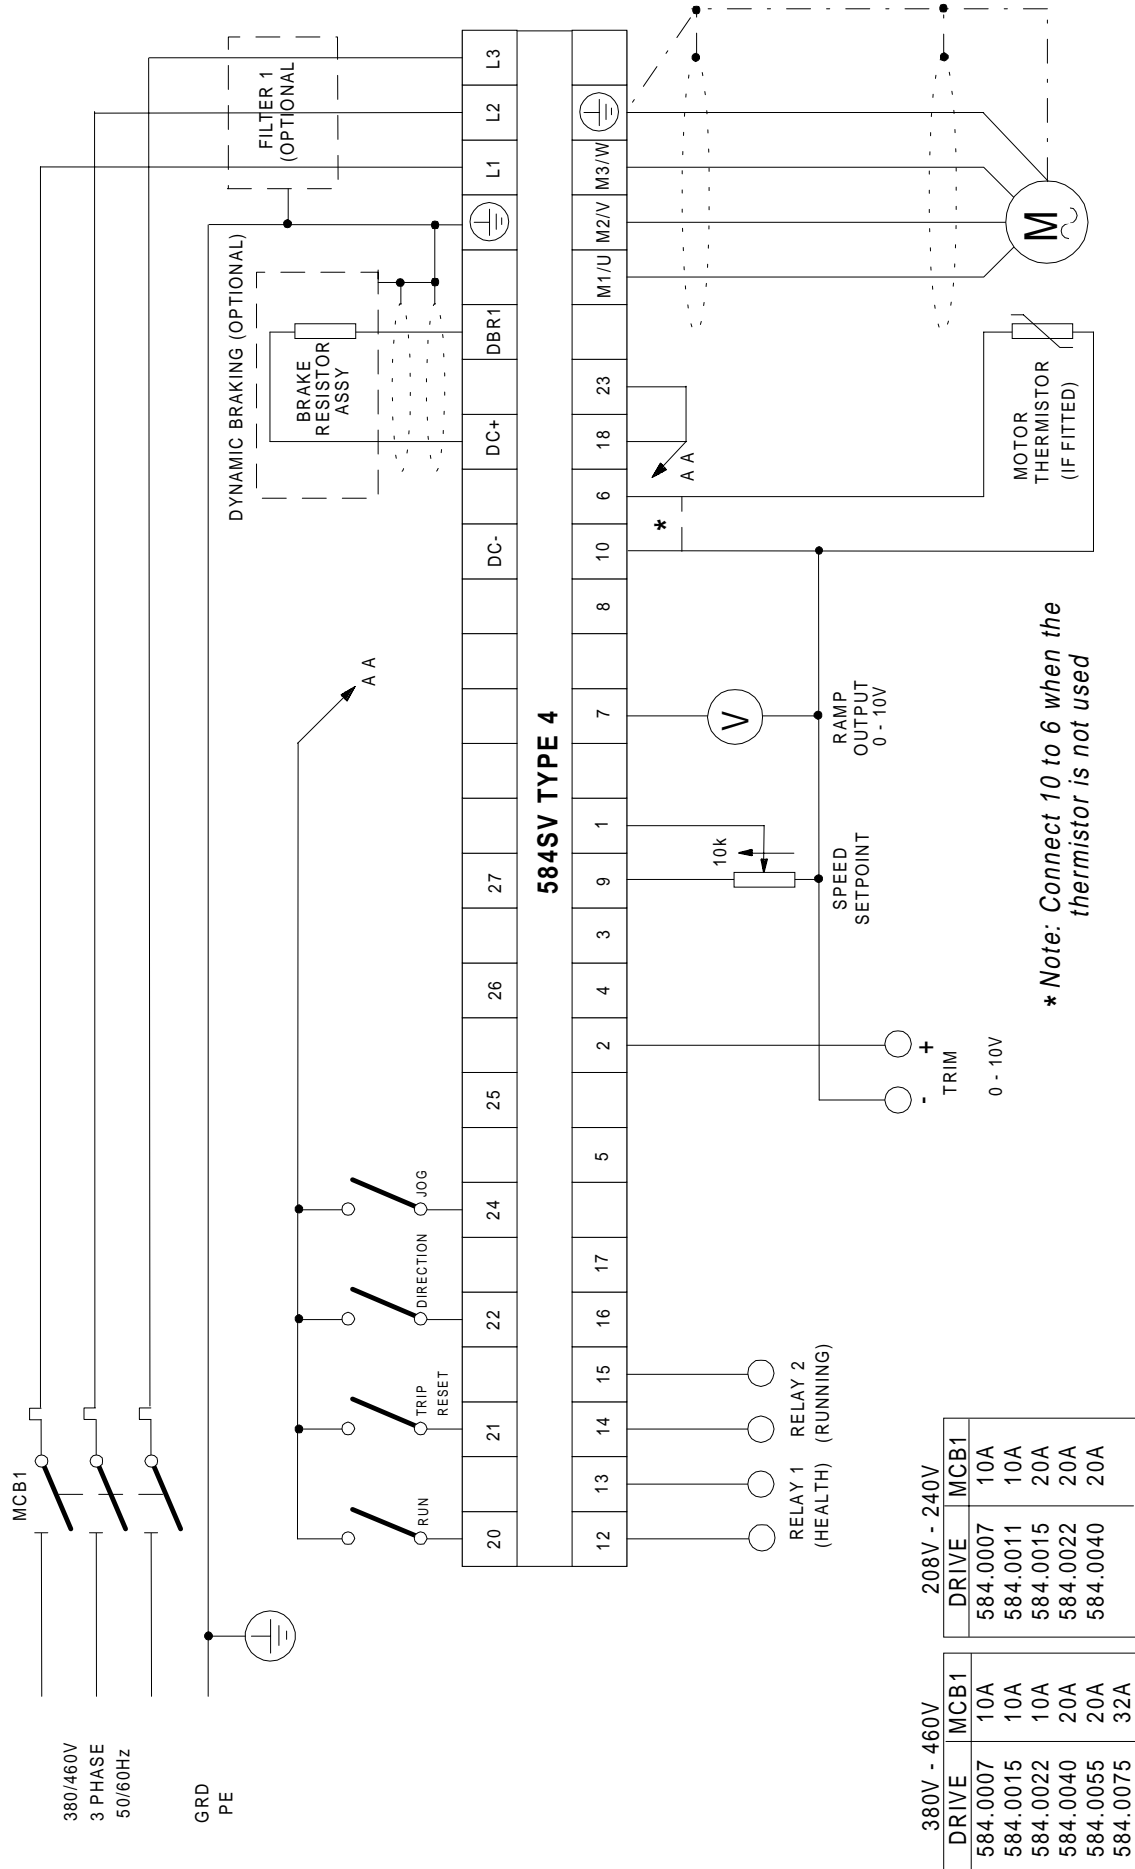
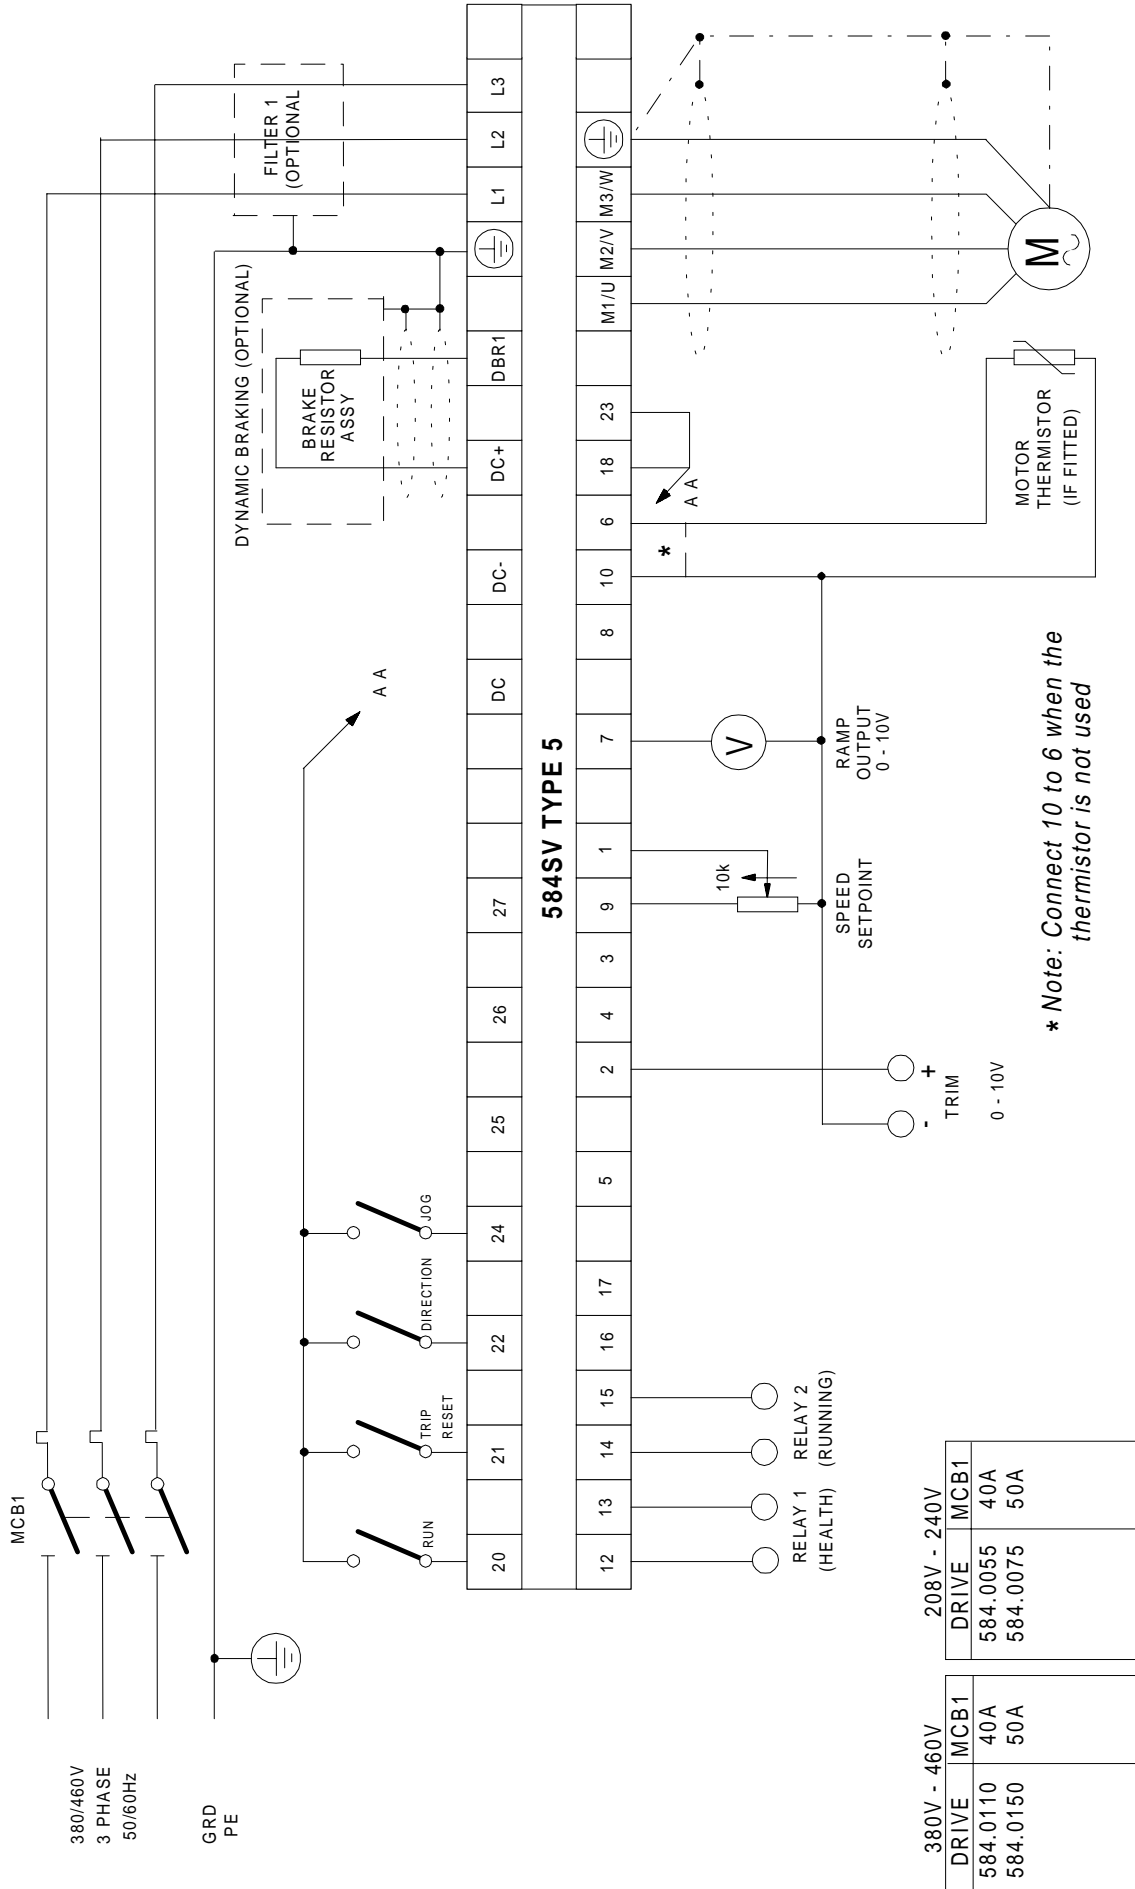
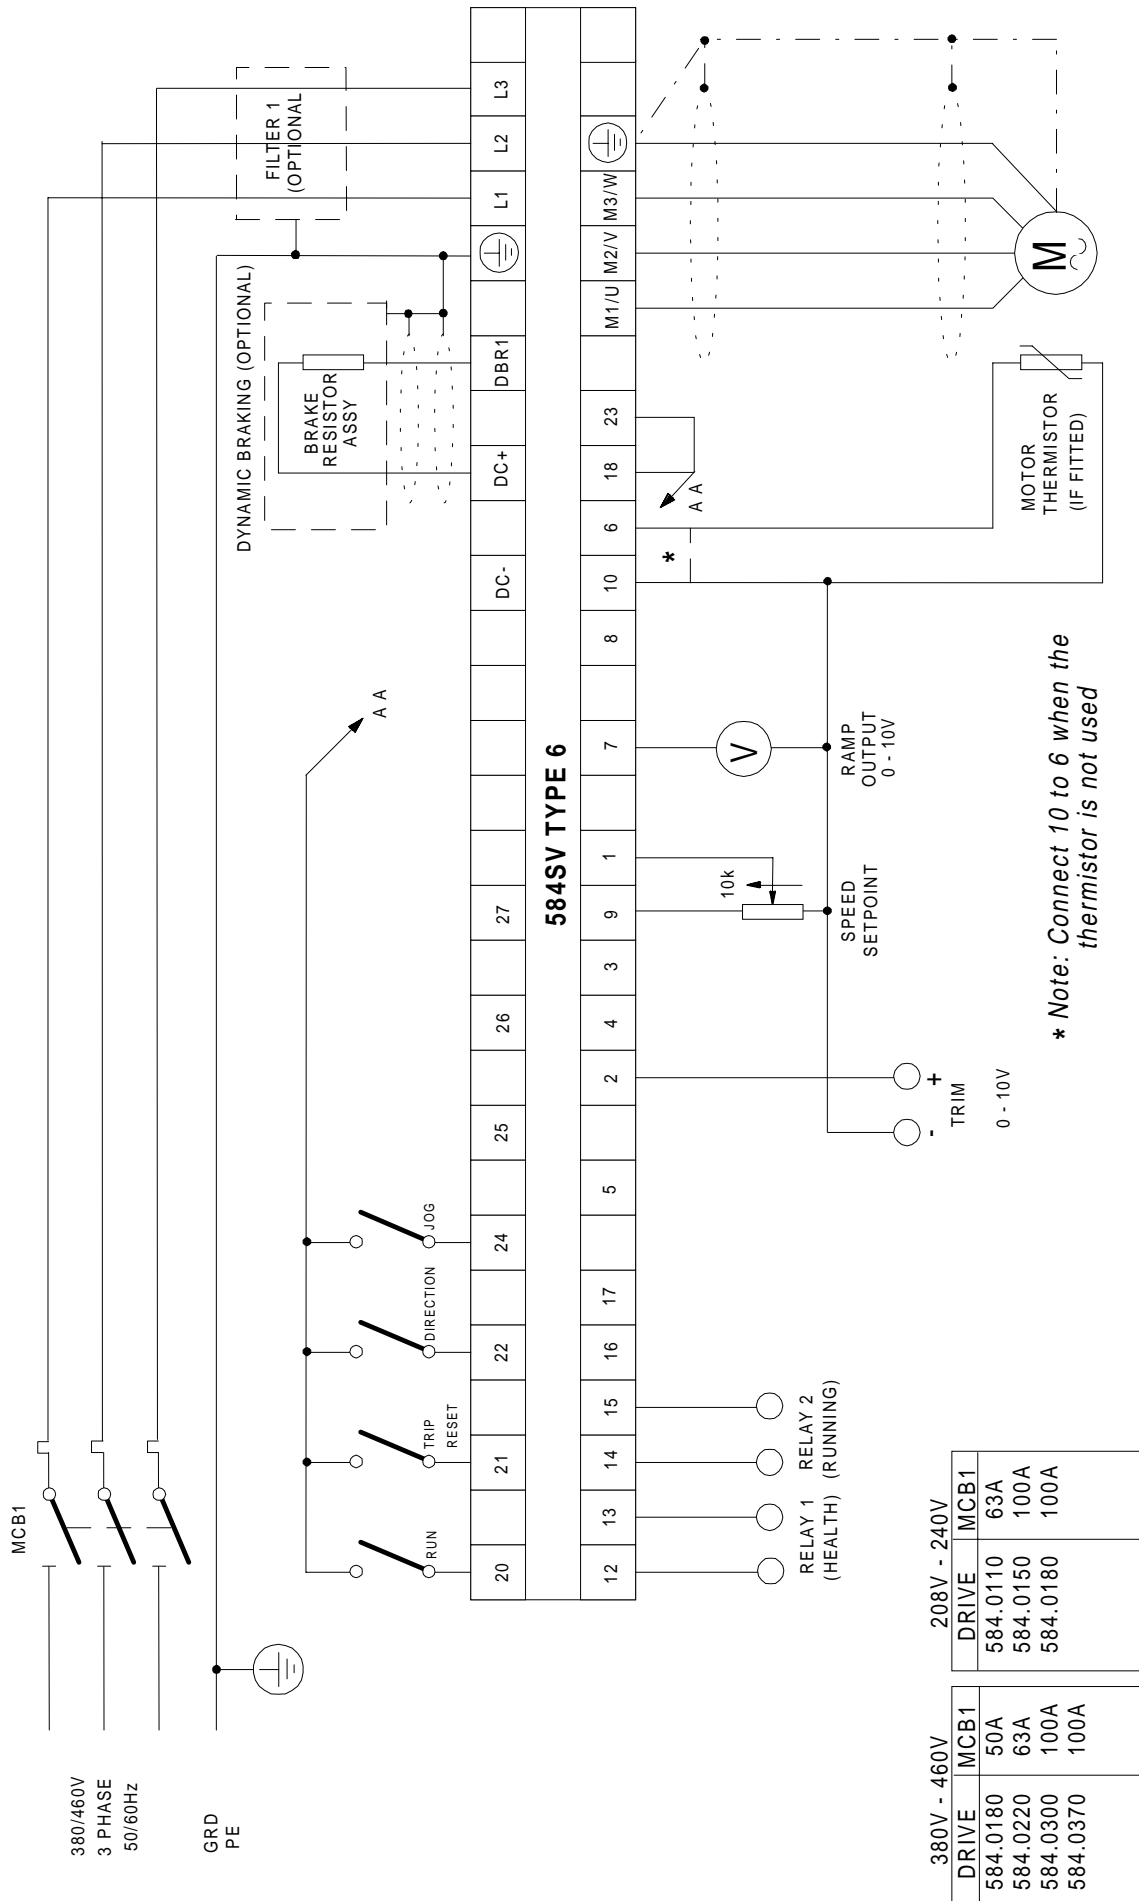
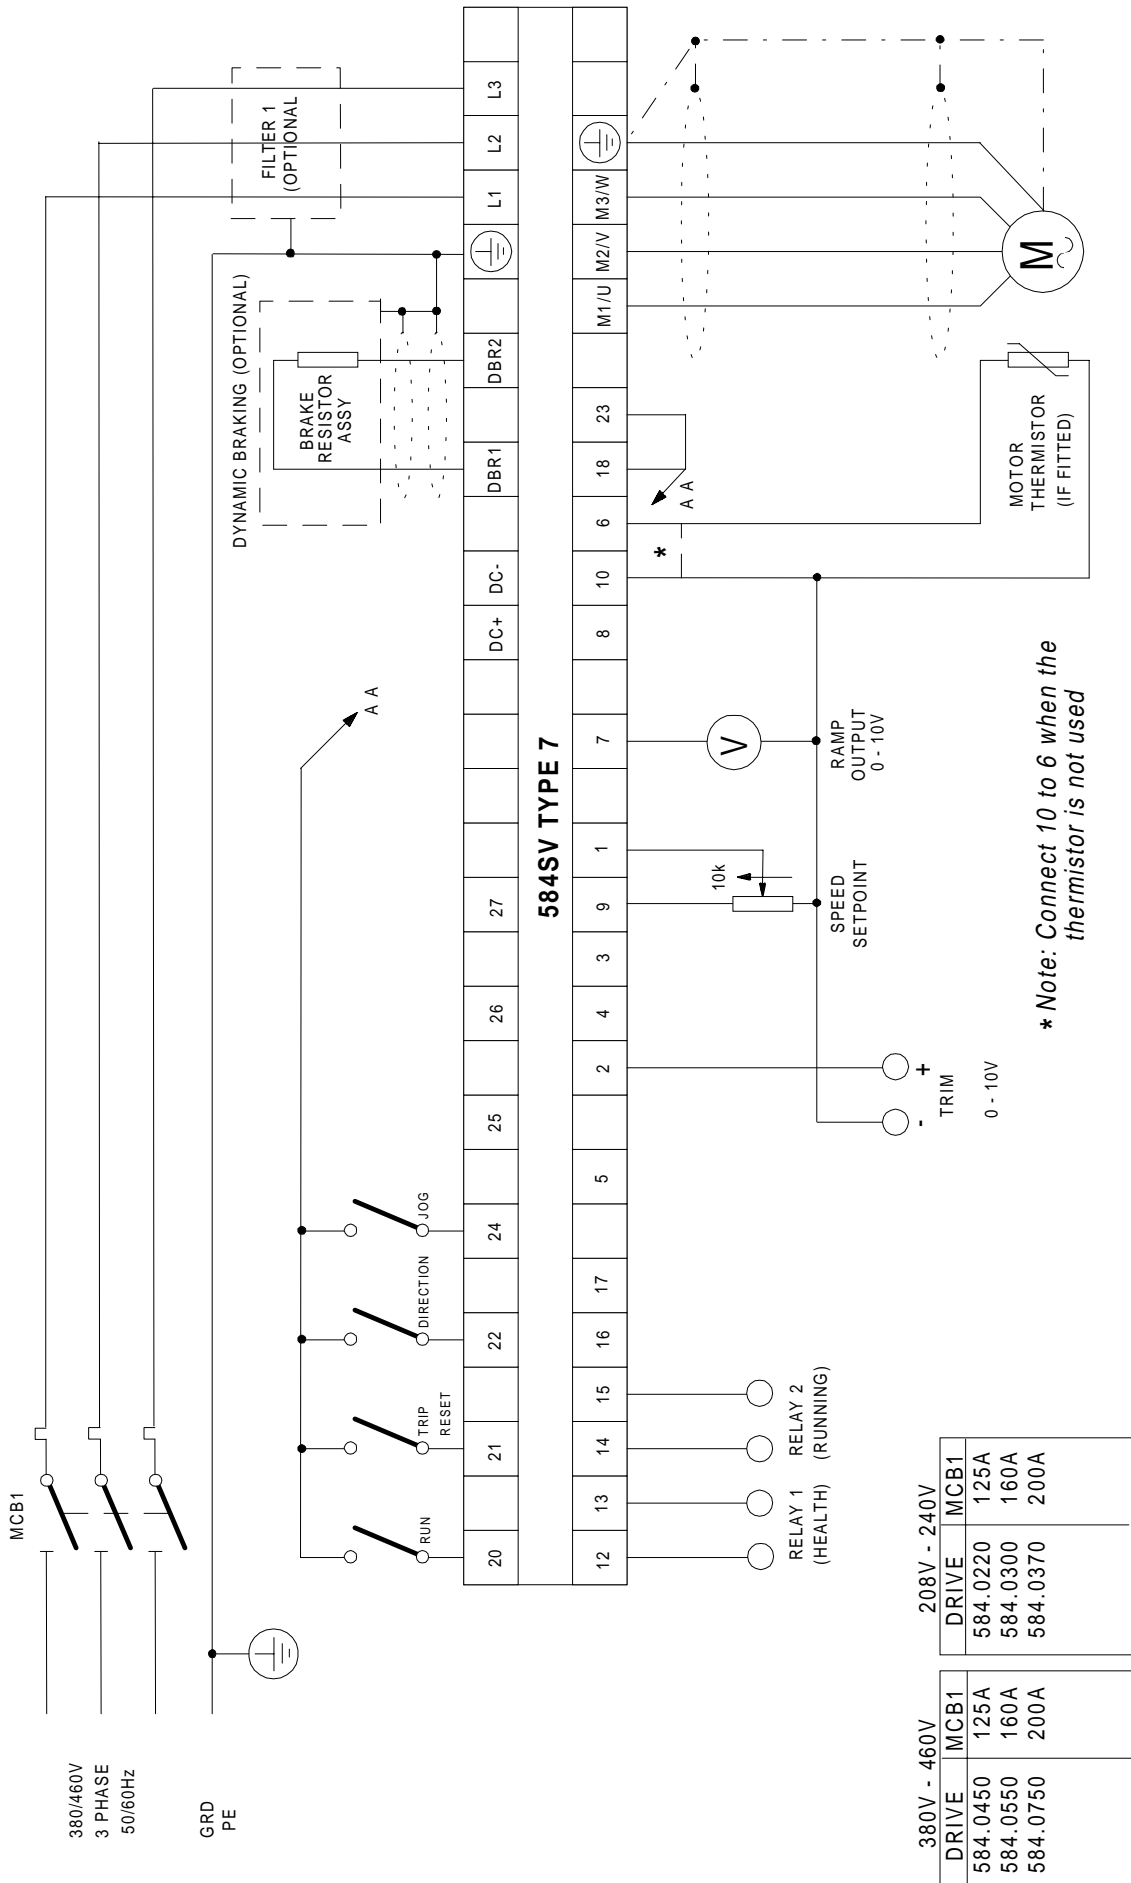

Figure 3-18 General Wiring Diagram for Macro 1 - 584SV Type 4
Figure 3-19 General Wiring Diagram for Macro 1 - 584SV Type 5
Figure 3-20 General Wiring Diagram for Macro 1 - 584SV Type 6
Figure 3-21 General Wiring Diagram for Macro 1 - 584SV Type 7
1. Feed the control cables into the Inverter and connect to the control terminals. Refer to Figure 3-18, Figure 3-19, Figure 3-20 or Figure 3-21 for connection details when using Macro 1 (default). Refer to Chapter 15: "Application Macros" for information when using other macros.